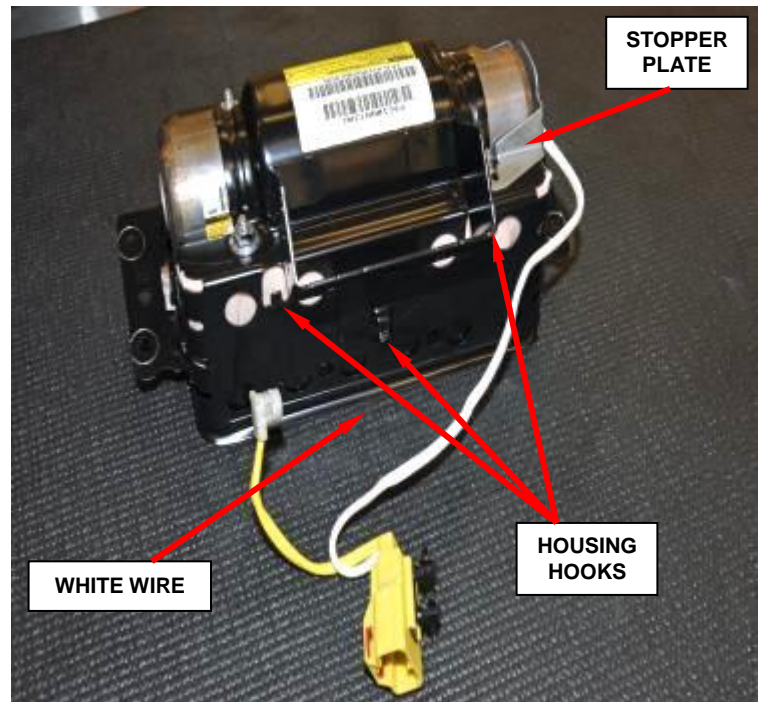

Figure 78 – White Wire Harness
- d. Release the white wire from the three housing hooks (Figure 78).
- f. Remove and save stopper plate from housing (Figures 78 and 79).